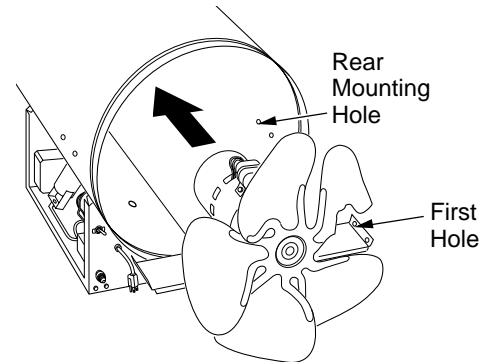

Figure 8 - Fan and Motor Turned Around
8. Turn motor and fan around. Place motor and fan into shell backwards. **Note:** Motor will go into shell first (see Figure 8).
9. Line up rear mounting holes in shell with first hole on each side of motor mount (see Figure 8). **Note:** When holes are lined up, fan should be outside of shell.